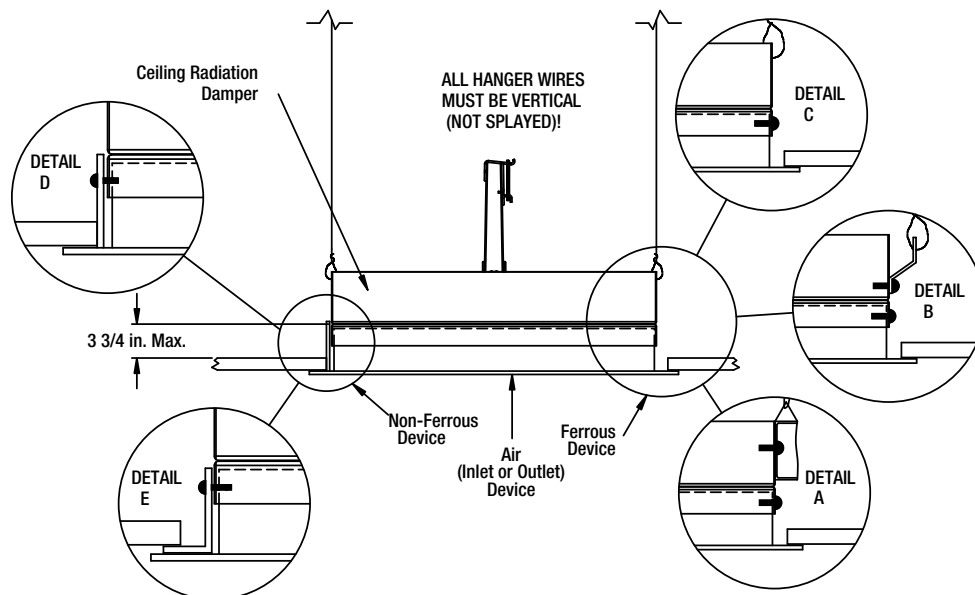

Figure 9
1. Ceiling radiation damper may be connected directly to the air device neck and supported by steel channel (see **Detail A, Figure 9**).
2. Ceiling radiation damper may be connected directly to the air device neck and supported by hanger straps (see **Detail B, Figure 9**).
- Ceiling radiation damper may be connected directly to the air device neck and supported by direct suspension with wires looped through the holes in the damper frame before tying (see **Detail C, Figure 9**).
Ceiling Penetrations) should be equal to the outside of the steel extension (see **Detail D, Figure 9**).
- A steel angle should be attached to the bottom of the ceiling radiation damper and span the gap from the ceiling radiation damper to the bottom of the ceiling membrane. The steel angle should overlap the ceiling membrane (see **Detail E, Figure 9**).
Models CRD-1, CRD-1LP, CRD-2, and CRD-60 may be installed as shown in Figure 9 (Model CRD-1 & CRD-1LP illustrated).